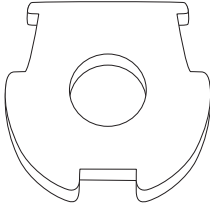

**Fig. 4**
1. Press the two upper dust cup release buttons to remove the dust cup from the main body (Fig. 4).